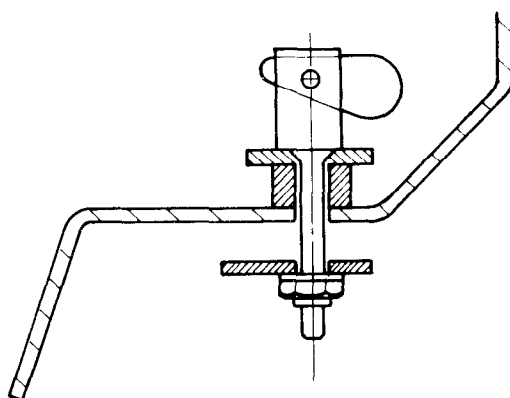

FIG 4 - INSECT SCREEN CATCH
- p. On RFSV and LRPV using a 3.5mm drill, drill through existing hole for insect screen catch through anchor plate bracket then fit insect screen catch using Items 16a through to 16d as shown in Fig 4.